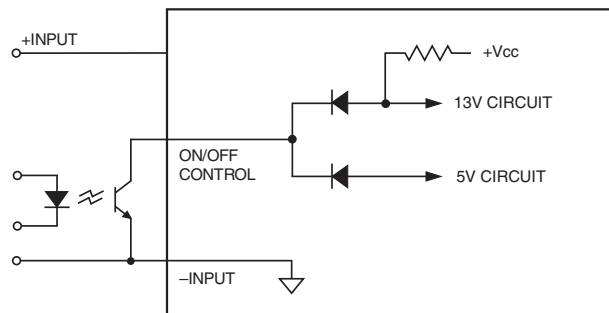

Figure 6. Driving the Negative Polarity On/Off Control Pin (simplified circuit)
**Positive** (“P” suffix) polarity models are enabled when the on/off pin is left open (or is pulled high, applying +3.5V to +13.5V with respect to –Input) as per Figure 6. Positive-polarity devices are disabled when the on/off pin is pulled low (0 to 0.8V with respect to –Input).